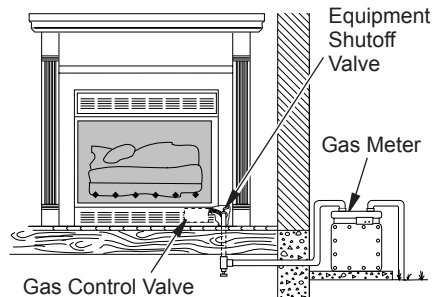

Figure 23 - Checking Gas Joints for Natural Gas
3. Check all joints from gas meter to equipment shutoff valve for natural gas or propane/LP supply to equipment shutoff valve for propane/LP (see Figures 23 or 24). Apply noncorrosive leak detection fluid to all joints. Bubbles forming show a leak.
4. Check all joints from equipment shutoff valve to gas control valve (see Figures 23 or 24, page 16). Apply noncorrosive leak detection fluid to all joints. Bubbles forming show a leak.